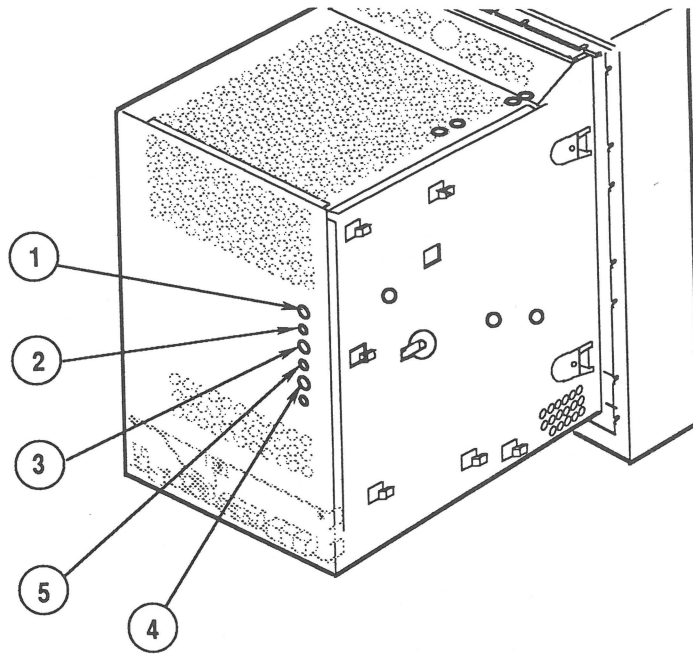

FIGURE 7
1. Using the insulated screwdriver, turn the horizontal center (H.CENT) control (Figure 7, #1) until the raster is centered (left to right) in the display area.
Measure the black margin on the right side of the display. The black margin should measure 7 to 8 mm from the right edge of the white raster to the edge of the plastic bezel. If necessary, use the insulated screwdriver to turn the horizontal phase (H.PHASE) control (Figure 7, #2) until the black margin is 7 to 8 mm wide.
2. Using the insulated screwdriver, turn the vertical size (HEIGHT) control (Figure 7, #3) until the raster is 276 mm high.
2. Using the insulated screwdriver, turn the vertical center (V.CENT) control (Figure 7, #4) until the raster is centered (top to bottom) in the display area.
2. Using the insulated screwdriver, turn the vertical linearity (V.LIN) control (Figure 7, #5) until the boxes at the top of the display are the same size as those at the bottom.